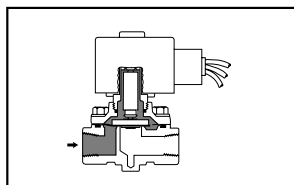

Figure 2A:
Internal Pilot Operated Valves (Figures 2A, 2B)
- Floating diaphragm or piston which requires a minimum pressure drop across the valve to remain in the open position (Figures 2A, 2B).